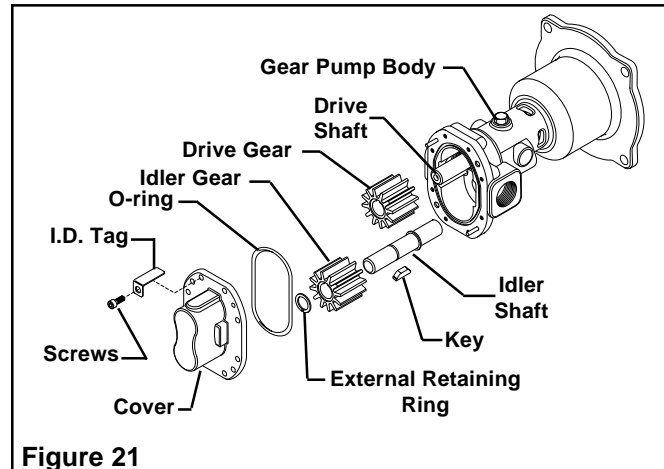

Figure 21
2. Remove the Screws securing the Cover from the Gear Pump Body. Do not remove the Pressure Relief Valve from the Cover on Models thus equipped (See Figure 21).
3. Remove and discard the O-ring from the Gear Pump Body (See Figure 21).
4. Slide the Idler Gear and the Idler Shaft out of the Pump (See Figure 21).
5. Remove the External Retaining Ring; then, slide the Gear off the Idler Shaft (See Figure 21).
6. Slide the Drive Gear off the Drive Shaft (See Figure 21).